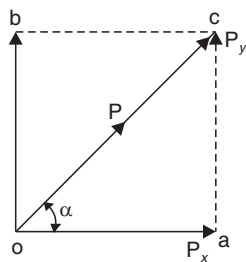

Fig. 2.11
**1. Mutually perpendicular components.** Let the force  $P$  to be resolved is represented in magnitude and direction by  $oc$  in Fig. 2.11. Let  $P_x$  is the component of force  $P$  in the direction  $oa$  making an angle  $\alpha$  with the direction  $oc$  of the force. Complete the rectangle  $oacb$ . Then the other component  $P_y$  at right angle to  $P_x$  will be represented by  $ob$  which is also equal to  $ac$ .